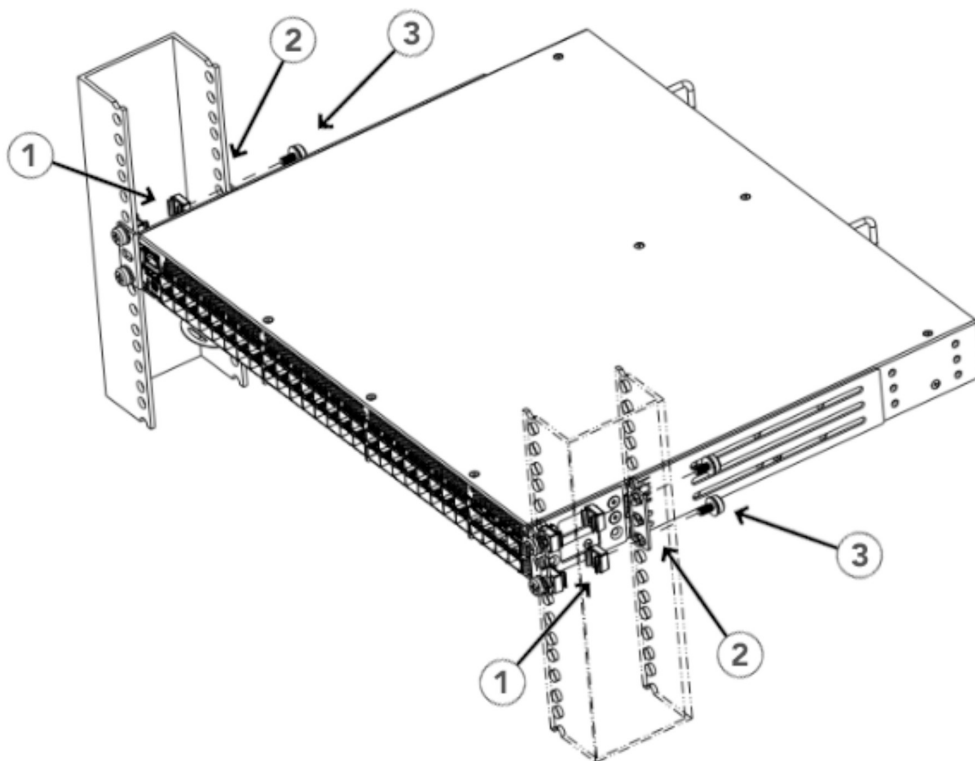

Figure 18. Attaching the Rear Brackets to the Rack
2. Position the right rear bracket in the right rear of the device, as shown in Figure 18.